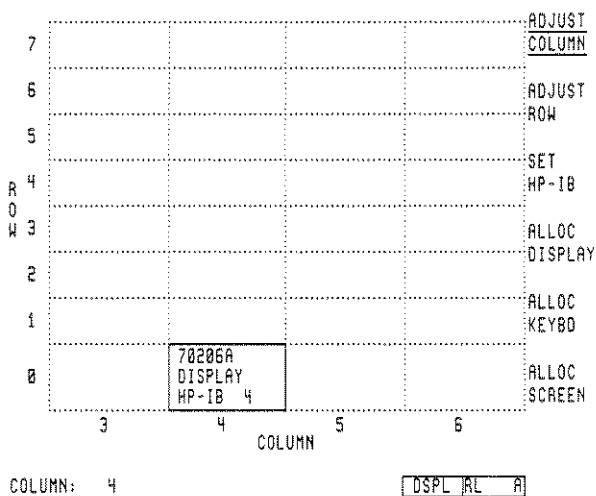

Fig. 10
4. Turn the display knob so that the cursor box stops on the display as in Figure 10.